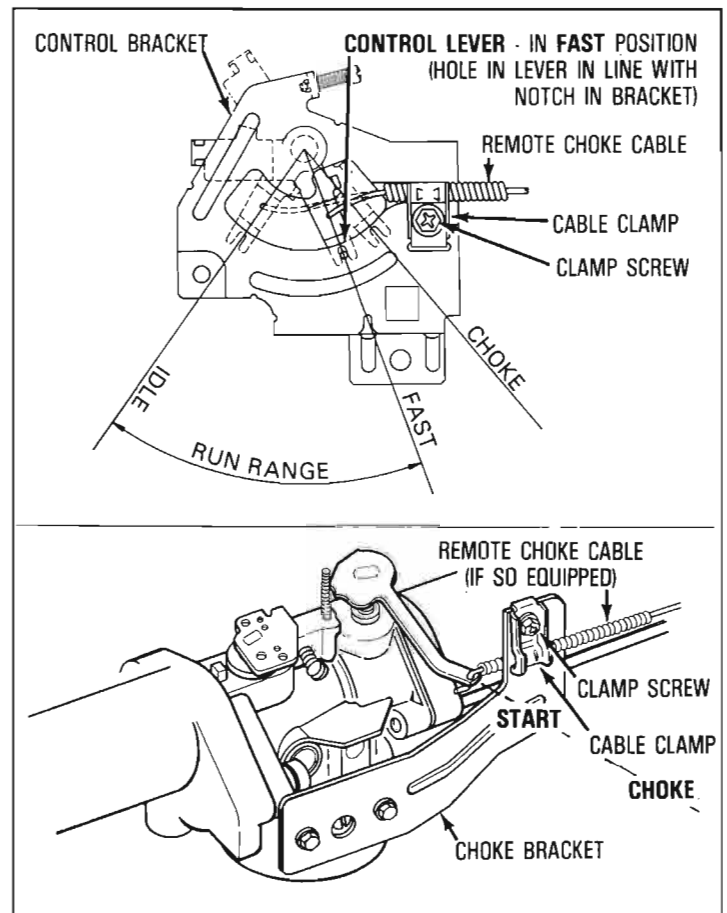

Figure 2
NOTE: See equipment manufacturer's instructions for control positions which correspond to engine control positions in Figures 2 and 6.
① **RECOIL STARTER:**
- Move control lever (see Figure 2 or 6) or equipment control to "CHOKE" or "START".
② ELECTRIC STARTER:
- A. Move control lever (see Figure 2 or 6) or equipment control to "CHOKE" or "START".
① REMOTE CONTROL (see Figure 2 or 6):
REMOTE CHOKE (if so equipped see Figure 2):